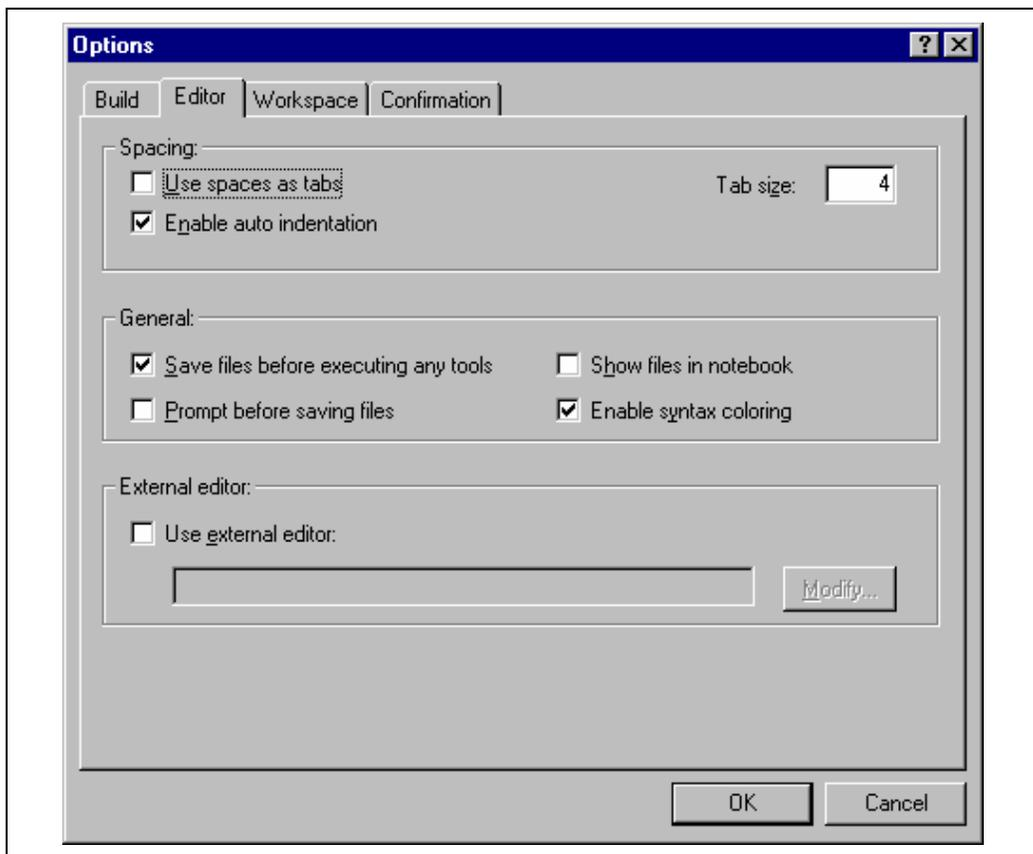

Figure 6.11: Options Dialog Editor Tab
1. Select [**Tools->Options...**]. The “Options” dialog will be displayed. Select the “Editor” tab (figure 6.11).
The High-performance Embedded Workshop allows you to customize file save on the “Editor” tab of the “Options” dialog (figure 6.11). To open the tab, select [**Tools->Options...**] and click the “Editor” tab.